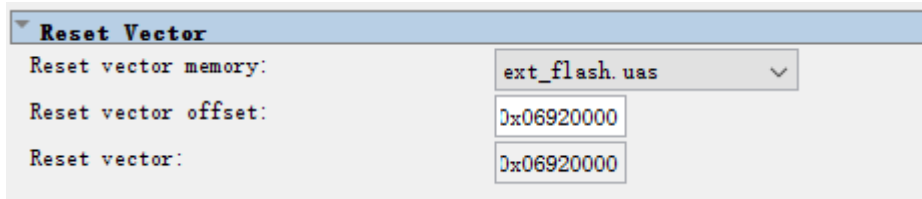

Figure 4-6 Reset Vector Settings for NIOS II Processor
- In NIOS II processor options, select FLASH as reset vector memory and specify 0x06920000 as reset vector, as shown in Figure 4-6.